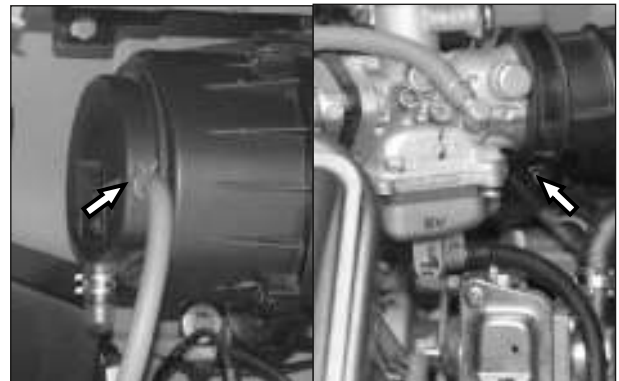

Fig. 5.95
- Disconnect breather hose PCV from air cleaner assembly (C). (Fig. 5.95)
- Loosen and remove the tube out let air filter hose clip from carburetor intake (D) (Fig. 5.95)